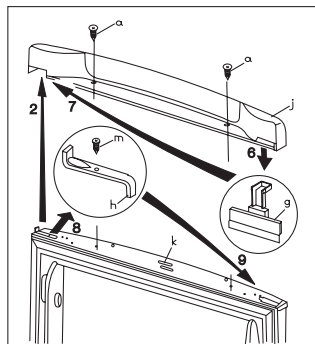

Fig.2
- Open the door of the fridge, dismantle the top cover (j) by removing the 2 screws (a), then close the door (Fig. 2).
- Move the panel (g) from one side of the top cover (2) to the other (Fig. 2).
- Unscrew the screw (m), remove the door stopper (h) and attach reversed on the other side (Fig. 2).
- Open the fridge door, attach the top cover (j) using 2 screws (a); at the same time pay attention to the repositioning of the magnet (k), then close the door (Fig. 2).